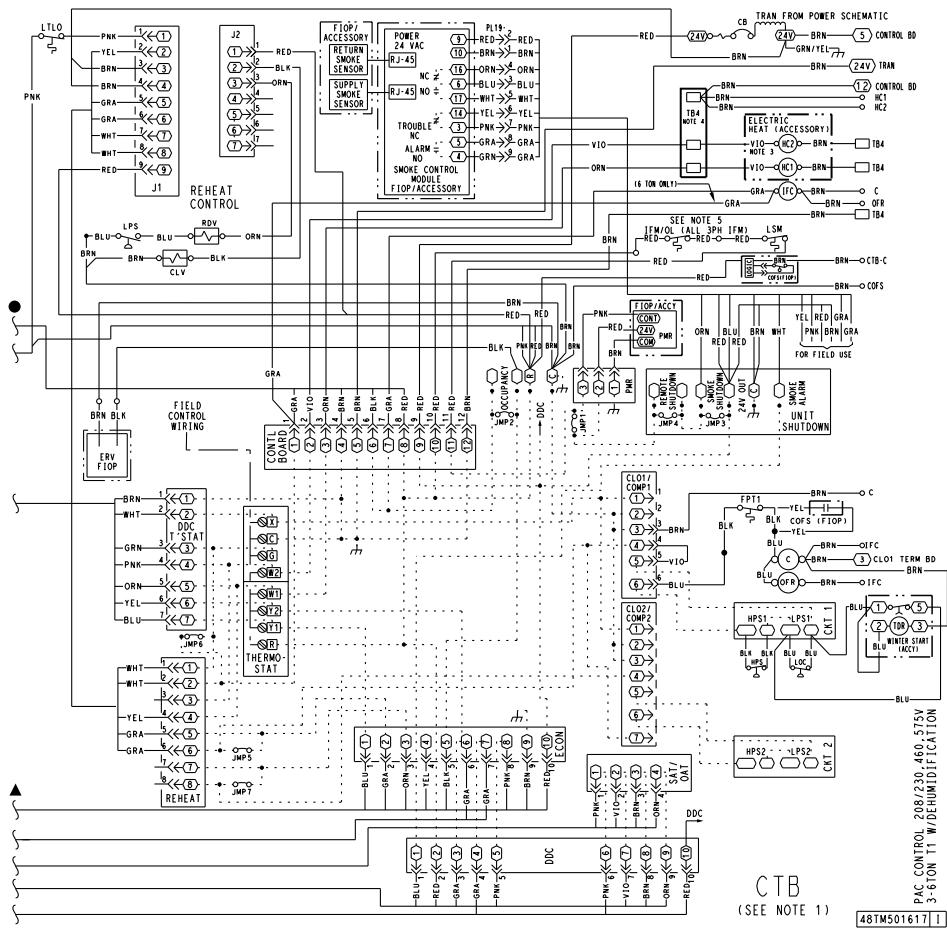

Fig. 33 - 558J*07G (unit with Perfect Humidity™ Dehumidification System) Humidistat Wiring
3. Use wire nuts to connect humidistat cable to two PINK leads in the low-voltage wiring as shown in Fig. 33.